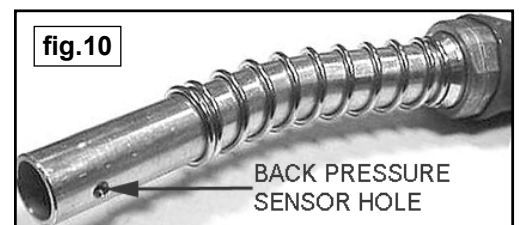

fig.10
- 5.2 Inspect the back pressure sensor hole on the dispensing nozzle for blockage and clean out if necessary (See fig.10).